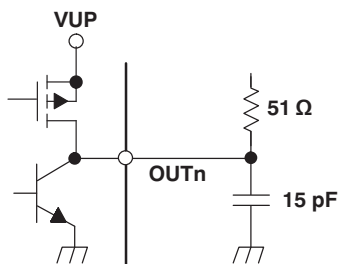
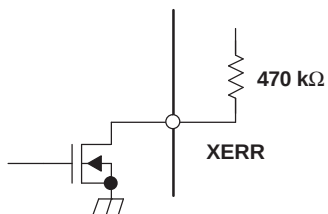

Figure 5. Test Circuit for t_{r1} , t_{f1} , t_{pd2} , t_{pd3} , t_{pd5} , t_d
Figure 6. Test Circuit for t_{pd4}
(2) See Figure 5. Defined as from 10% to 90%
(5) See Figure 5 and Figure 16
(6) See Figure 5, Figure 6, and Figure 16
(7) See Figure 5